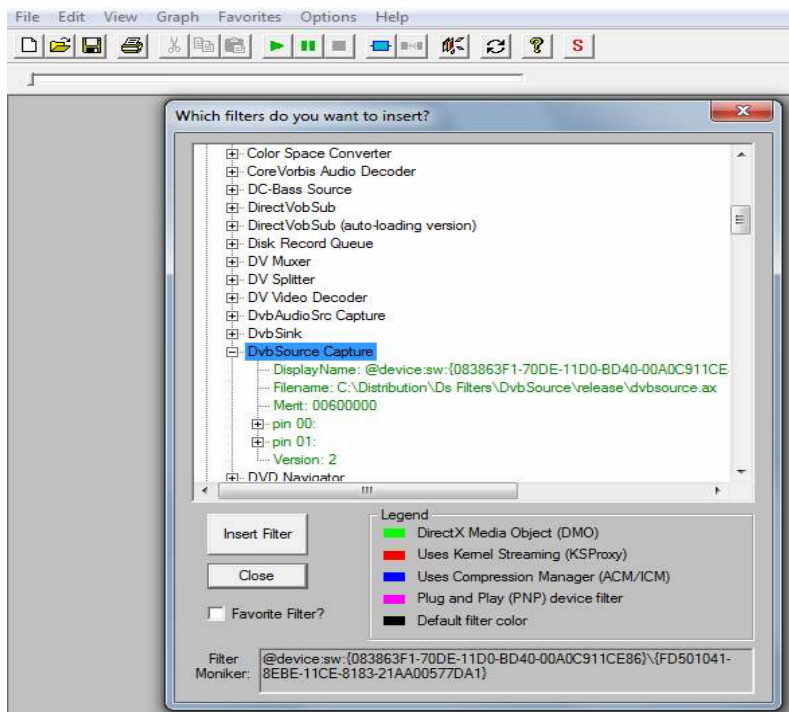

Figure 5.2 Selecting DvbSource Capture from “Which filters do you want to insert?” window
- Click to select the desired filter. **Fig 5.2** shows DvbSource Capture filter being selected